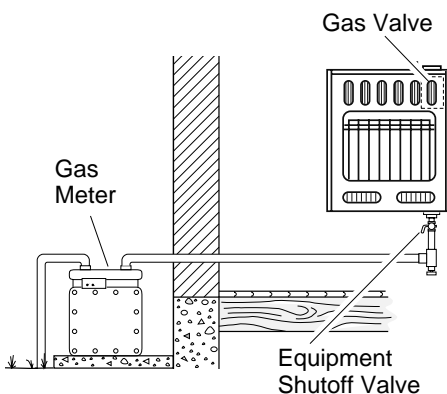

Figure 15 - Checking Gas Joints
3. Check all joints from gas meter to equipment shutoff valve (see Figure 15). Apply mixture of liquid soap and water to gas joints. Bubbles forming show a leak.
4. Check all joints from equipment shutoff valve to thermostat gas valve (see Figure 15). Apply mixture of liquid soap and water to gas joints. Bubbles forming show a leak.